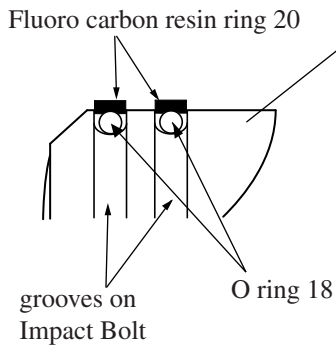

Fig. 31
1. After installing fluoro carbon resin ring 20 on impact bolt, the ring comes stretched and its edge come protruding from the groove. (see Fig. 31)